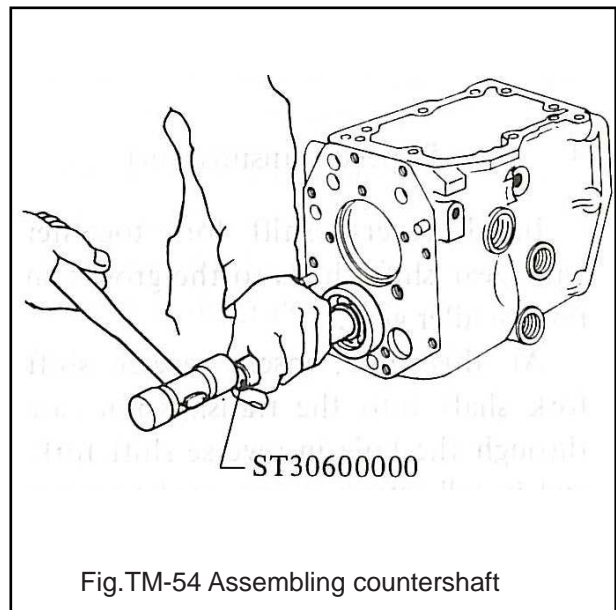

Fig.TM-54 Assembling countershaft
- 3.Press countershaft rear bearing into place, using Bearing Drift ST30600000. See Figure TM-54